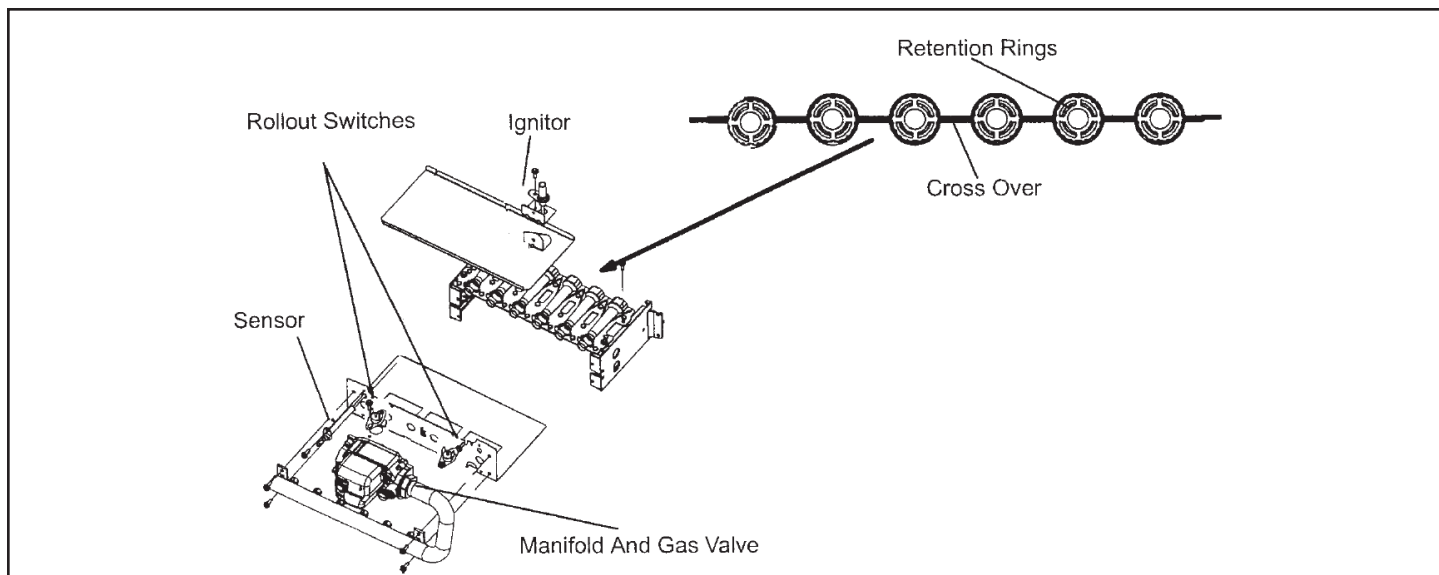

Figure 41. Burner Assembly Removal
4. To clean burners, run a vacuum cleaner with a soft brush attachment over the face of burners. Visually inspect inside the burners and crossovers for any blockage caused by foreign matter. Remove any blockage. Figure 41 shows burner detail.